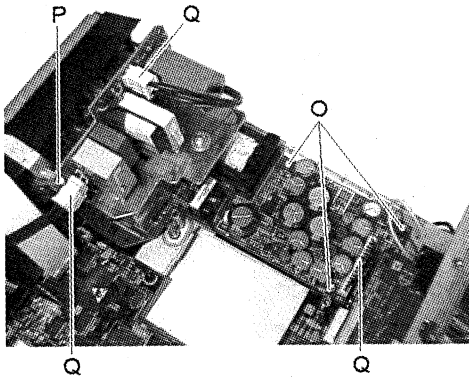

Fig. 4.13
4.9 Removing the Power supply (fig. 4.13)